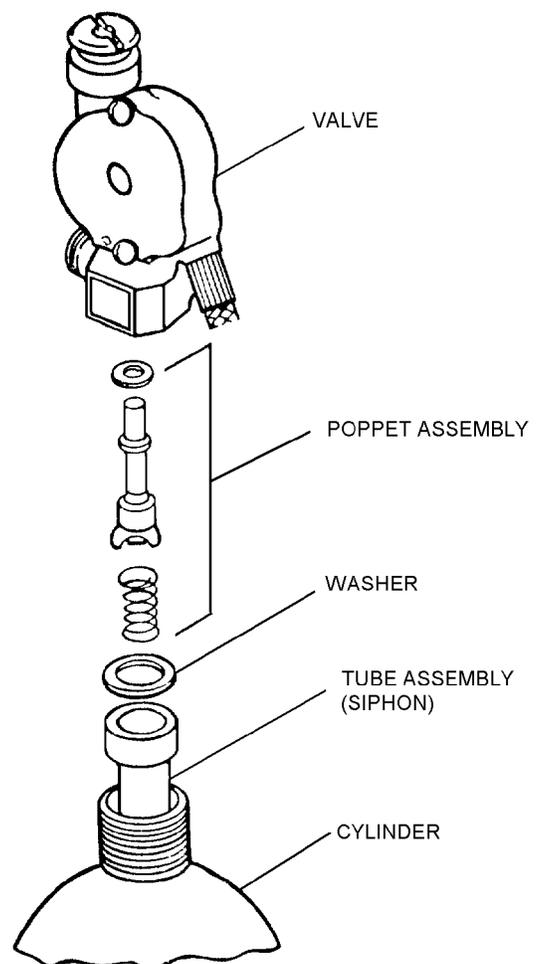

Figure 10-7. Valve Poppet Disassembly
3. Disassemble valve (Figure 10-7) and inspect poppet for worn seat. Replace poppet assembly if necessary.